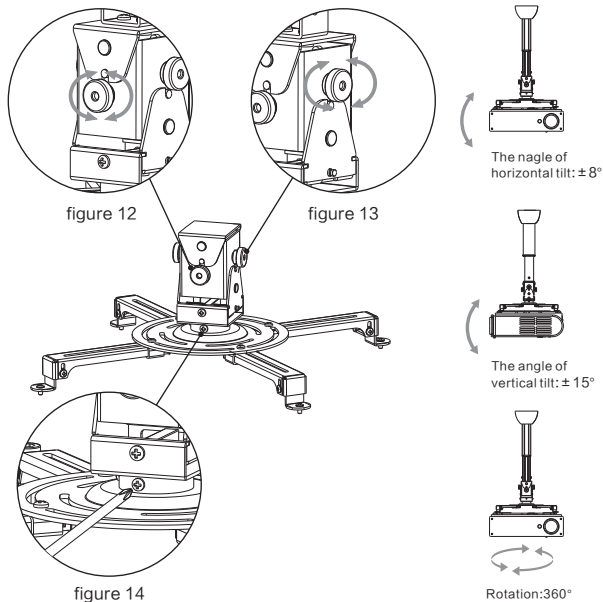

figure 14
3. Horizontal rotation adjustment: loosen the rotation adjusting screw (3-4), the installation base can be rotated by 360°; fasten the rotation adjusting screw (3-4) after deciding the angle, figure 14